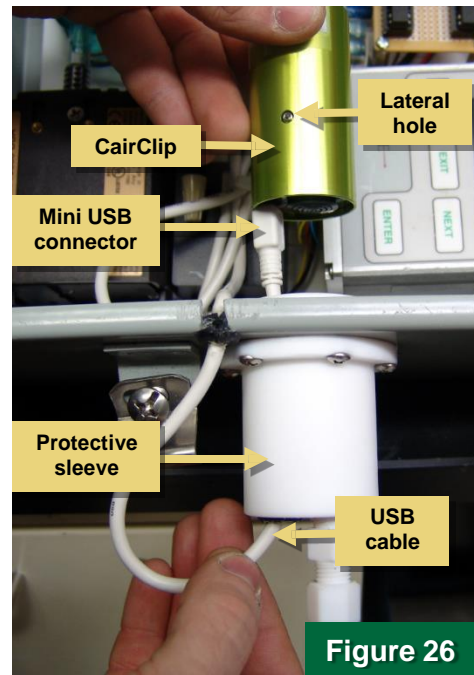

Figure 26
3. Hold onto the white mini USB cable on the front of the CSAM to prevent its fitting from working loose, and from inside the CSAM gently wiggle the CairClip backwards until it comes out of the sleeve (Figure 26).
9. Align the USB plug with the cable insertion hole, and while feeding the mini USB cable gently into the hole, reinsert the CairClip into the protective sleeve and gently but firmly press the CairClip into the sleeve hole until it can go no further. Be sure the lateral hole, shown in Figure 26 remains outside of the sleeve.